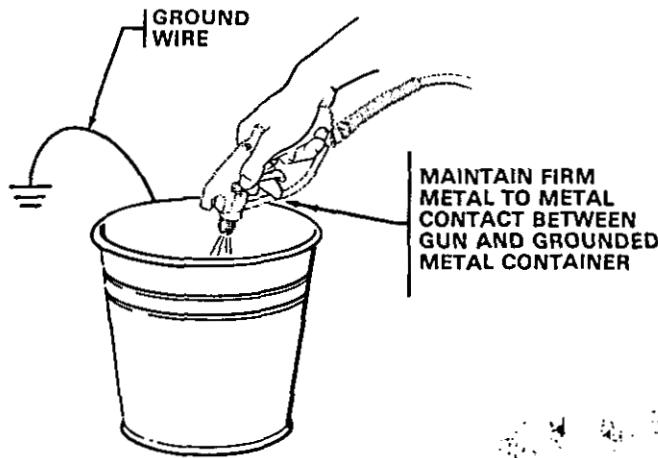

Fig 6
6. Disengage the gun safety latch. Point the spray gun into a grounded metal waste container and with a metal part of the gun firmly touching the metal container, squeeze the gun trigger. See Fig 6. *This procedure helps reduce the risk of static sparking and splashing.* With the gun triggered, turn the ON/OFF switch to ON and slowly turn the pressure adjusting knob clockwise *just until* the sprayer starts. Keep the gun triggered until clean solvent comes from the nozzle. Release the trigger and engage the gun safety latch.